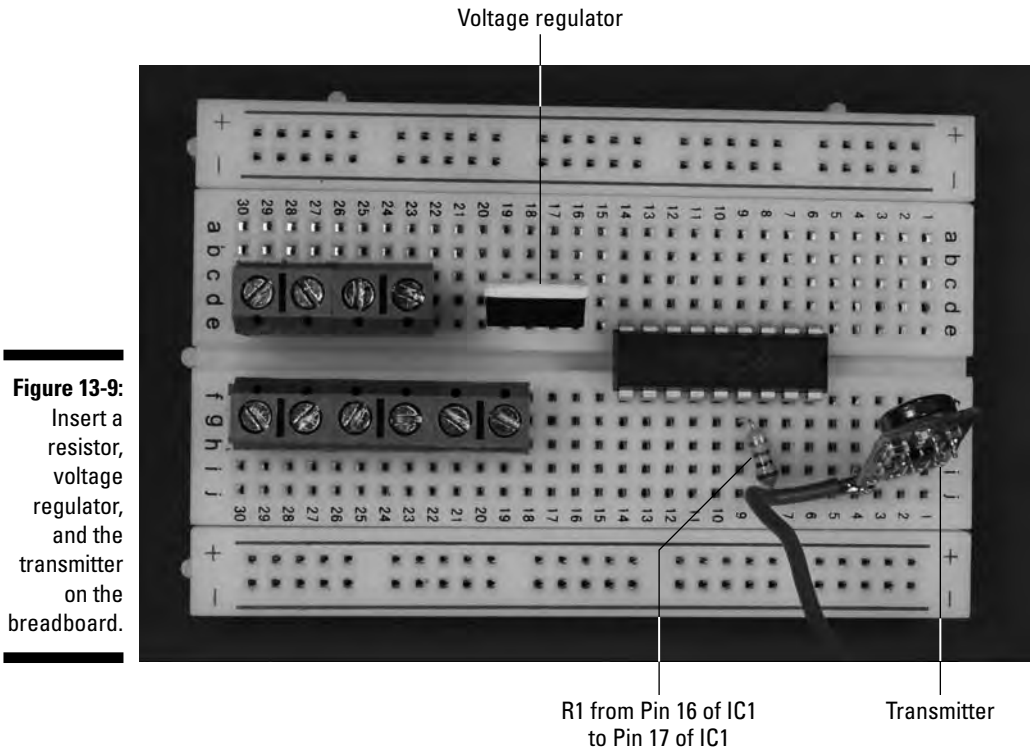

Figure 13-9: Insert a resistor, voltage regulator, and the transmitter on the breadboard.
3. Insert the voltage regulator (VR1), a 1 megohm resistor (R1), and the transmitter module on the breadboard, as shown in Figure 13-9.